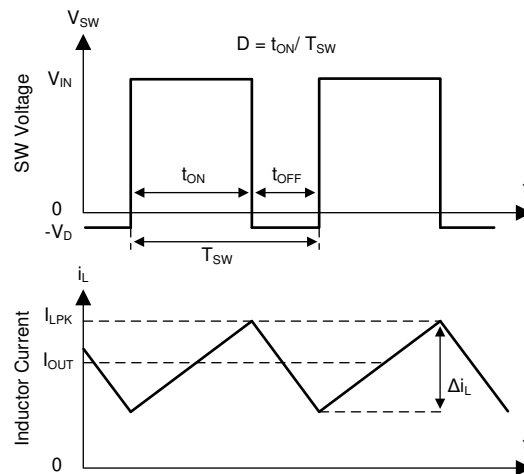

图 10. SW Node and Inductor Current Waveforms in Continuous Conduction Mode
The following operation description of the LM76002/LM76003 refers to the *Functional Block Diagram* and to the waveforms in 图 10. The LM76002/LM76003 supplies a regulated output voltage by turning on the internal high side (HS) and low side (LS) NMOS switches with varying duty cycle (D). During high-side switch on-time t_{ON} , the SW pin voltage V_{SW} swings up to approximately V_{IN} , and the inductor current i_L increase with linear slope. The HS switch is off by the control logic. During the HS switch off-time, t_{OFF} , the LS switch is turned on. Inductor current discharges through the LS switch, which forces the V_{SW} to swing below ground by the voltage drop across the LS switch. The regulator loop adjusts the duty cycle to maintain a constant output voltage. The control parameter of buck converter is defined as duty cycle $D = t_{ON} / t_{SW}$. In an ideal buck converter, where losses are ignored, D is proportional to the output voltage and inversely proportional to the input voltage: $D = V_{OUT} / V_{IN}$.